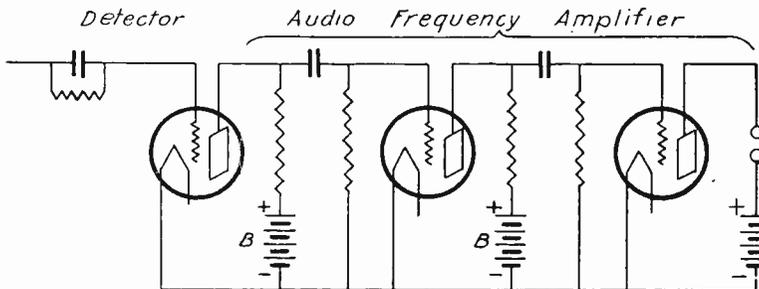
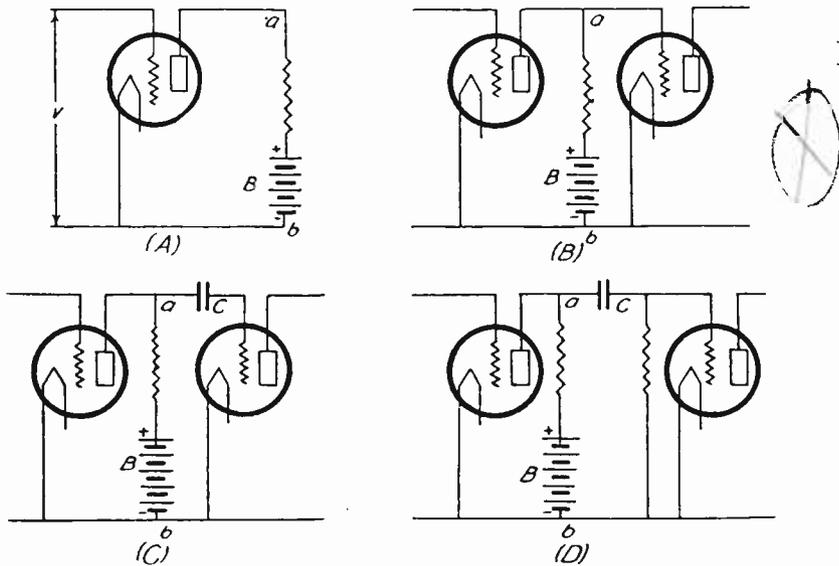

Fig. 1—Elementary Circuit Diagram of a Two Stage Resistance Coupled A. F. Amplifier.
Fig. 2
A circuit diagram of this type of amplifier is shown in Fig. 1. For the sake of clearness we have omitted the "A" batteries, for these are always connected in the same way.
We have shown the amplifier connected to the output of a detector tube. Now let us see how this amplifier works. In order to do this, we will have to start with an electron tube, and build up the complete amplifier. Then we will know the reasons for the different things in the circuits. Suppose we start with an electron tube, having its filament lighted by an "A" battery, so that it emits electrons, and we place in the plate circuit a resistance of about 100,000 ohms and a "B" battery. We have shown this part of the circuit in Fig. 2-(A). Now suppose we have a signal voltage (that is, an alternating or oscillating voltage) impressed on the input of the tube. This is indicated by the letter "v."
there will be a similar current in the plate circuit of the tube, but of course made stronger or amplified by the tube. In other words, there will be a rising and falling voltage established between the points "a" and "b" of Fig. 2-(A), which we want to make work for us. The idea is now to take this voltage between "a" and "b," and impress it on the input of another electron tube so as to amplify it still further. Suppose we were to connect the points "a" and "b" directly to the input (this is, the grid and filament) of another electron tube. We have shown this in Fig. 2-(B). What will happen? The answer is that the second tube will not work at all. The reason for this is clear, for we are using a voltage of 90 volts, or perhaps 135 volts in the "B" battery, and this is connected in Fig. 2-(B) just like a "C" battery, that is, in the grid-return of the second tube. Having such a high positive grid voltage, the plate current in the second tube will be so greatly increased that the tube will not work. Under such conditions the tube will be *saturated*, by which we mean that when the grid or "C" voltage is so *positive*, a weak signal voltage on the grid will produce no corresponding voltage change in the plate or output circuit.
What we must do is to get rid of this high voltage on the grid of the second tube. This is easily done by placing a fixed condenser in the grid circuit of this tube, as shown at Fig. 2-(C). This condenser is marked "C." A constant voltage, such as furnished by the "B" battery will not pass through the condenser, but a varying voltage, furnished by the radio signals, will pass through easily. Therefore the condenser C *blocks* the voltage of the "B" battery off the grid of the second tube. For this reason, the condenser, when used in this way is called a *blocking condenser*. But remember that it allows the signal voltage to pass through onto the grid of the second tube, where we want it to go.
But when we place the blocking condenser in series with the grid of the second tube in Fig. 2-(C), we are preventing these electrons, and the negative charge which they cause on the grid, from flowing off the grid. As a result the grid becomes highly charged negatively. Now you remember what happened a few moments ago before we placed the blocking condenser in the circuit. The "B" battery placed such a large
We can now see the complete circuit, as shown in Fig. 1, more clearly. This is a combination of several stages of the circuit explained in Fig. 2. Going a little farther, we have in Fig. 3, the complete circuit, where only one set of "B" batteries is used. This circuit can be used to replace any other kind of audio-frequency amplifier that may be used in the receiver. But you must also know that whereas two stages